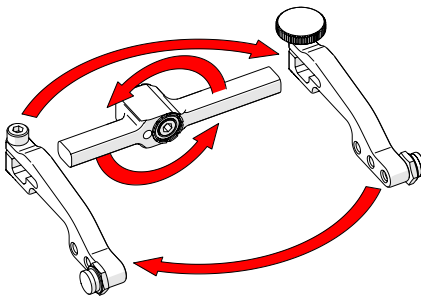

Fig. 50 - Flip yoke and reverse arms
4. Flip the yoke 180° and swap the probe holder arms (Fig. 50).